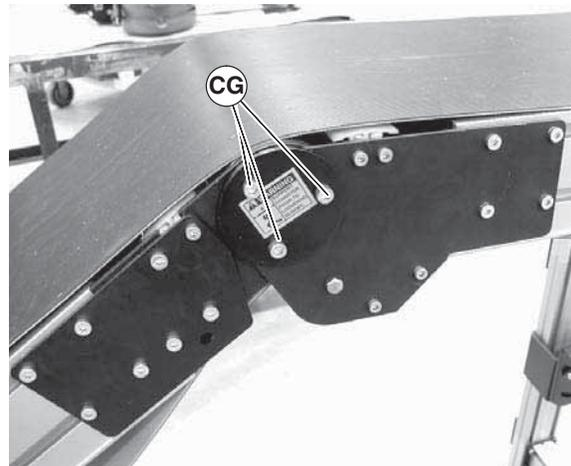

Figure 54
- Loosen screws (Figure 54, item CG) on both sides of knuckle.
- Tighten screws (Figure 54, item CG) on both sides of knuckle to 100 in-lbs (12 N-m).